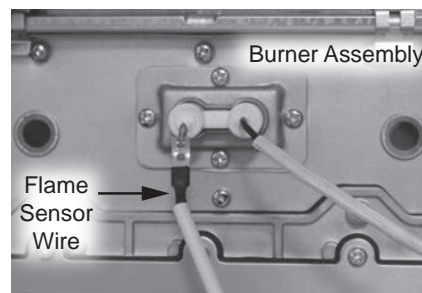

Figure 119 - Removing flame sensor wire
**5** Locate flame sensor wire attached to burner assembly. Disconnect wire and place aside for easy access to the gas manifold. See Figure 119.
- 32 Locate the flame sensor previously disconnected from burner assembly in **Step 5**. Connect flame sensor wire. See Figure 119.